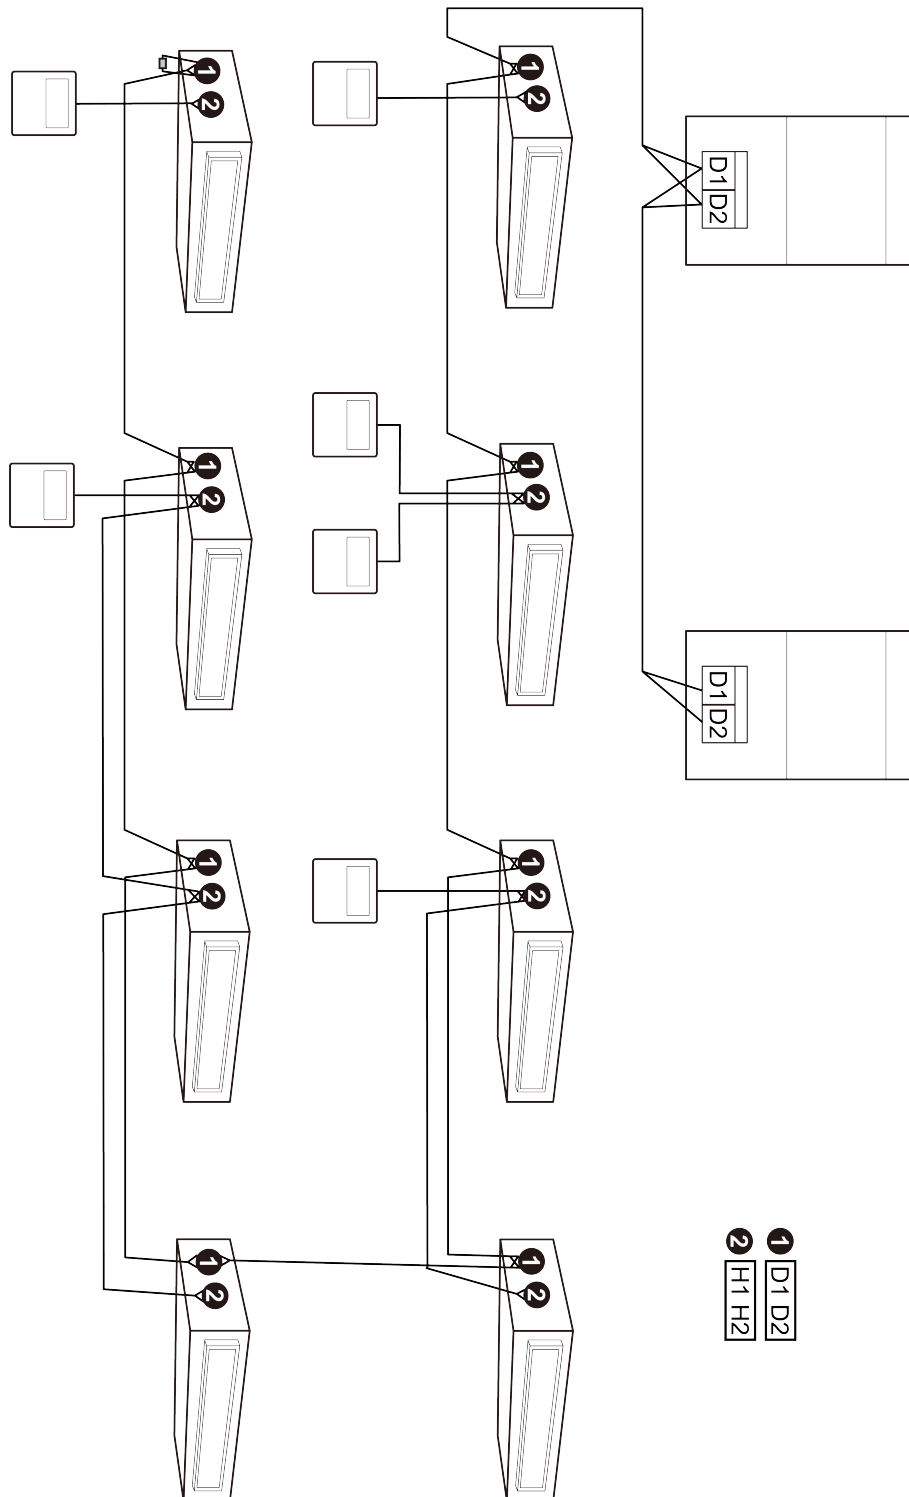

Fig.5.5
- (1) Communication wire of indoor unit and outdoor unit (or indoor unit) is connected to D1, D2.
- (2) Wired controller is connected to H1, H2.
- (3) One indoor unit can connect two wired controllers that must be set as master one and slave one.
(4) One wired controller can control 16 indoor units in maximum at the same time (as shown in Fig.5.5).